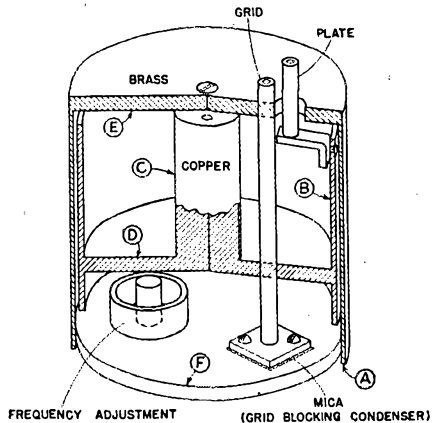

Fig. 1 — Sectional view of the tank circuit.
The basic type of tank circuit used in the oscillators to be described here is shown in section in Fig. 1. This tank circuit is cylindrically symmetrical about the center-line axis and consists
- L₁C—Tank circuit shown in Fig. 1.
- L₂—Grid rod shown in Fig. 1.